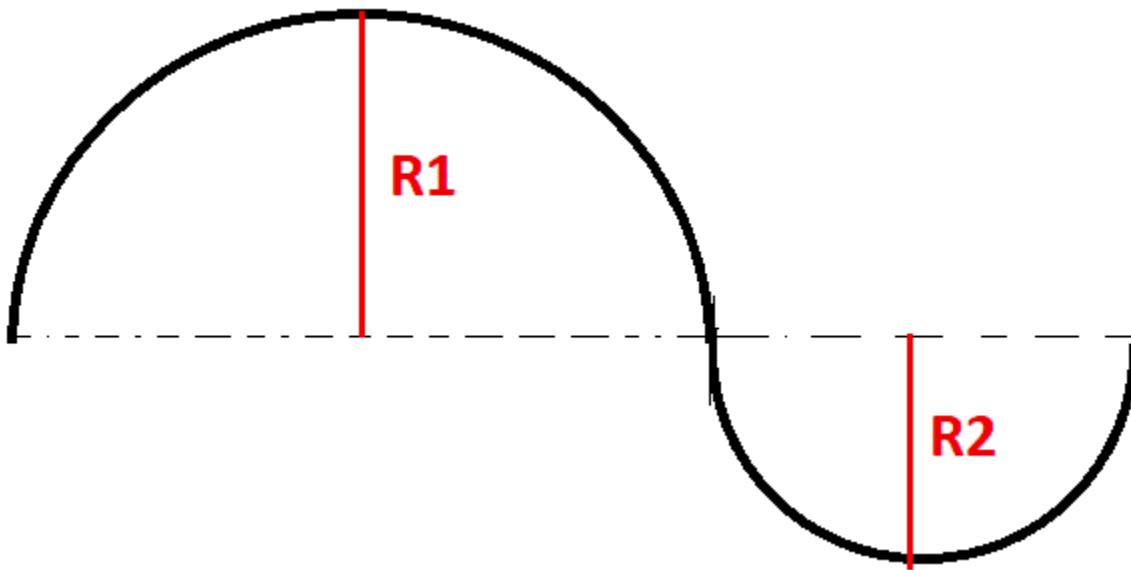

Figure 2. Path to be followed by the robot.
Implement the program 'SShape.ino'. The program should make the robot move in two semicircles of radius "R1" and "R2" respectively, as shown in Figure 2. The robot should stay still until the "select" button is pressed. When "select" is pressed, the robot should perform the first semicircle in a clockwise movement. After completing the first semicircle, the robot should wait for the "select" button to be pressed again, and then perform the second semicircle in a counterclockwise manner. The whole movement must be completed in "Y" seconds moving at the same constant speed for both halves. The robot should stop based on encoder readings (distance traversed), and not based on a given time.
- 1) Observe that, independently of the trajectory, the robot moves by fixing the speeds of the wheels for a given amount of time (as in the “S” shape shown in Figure 2). Taking this into consideration, can the robot move in any kind of trajectory? Consider an ellipse as an example.